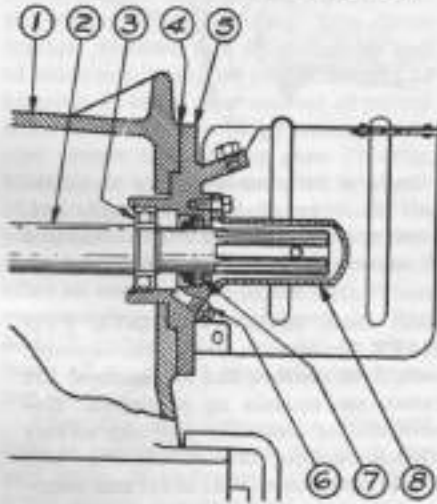
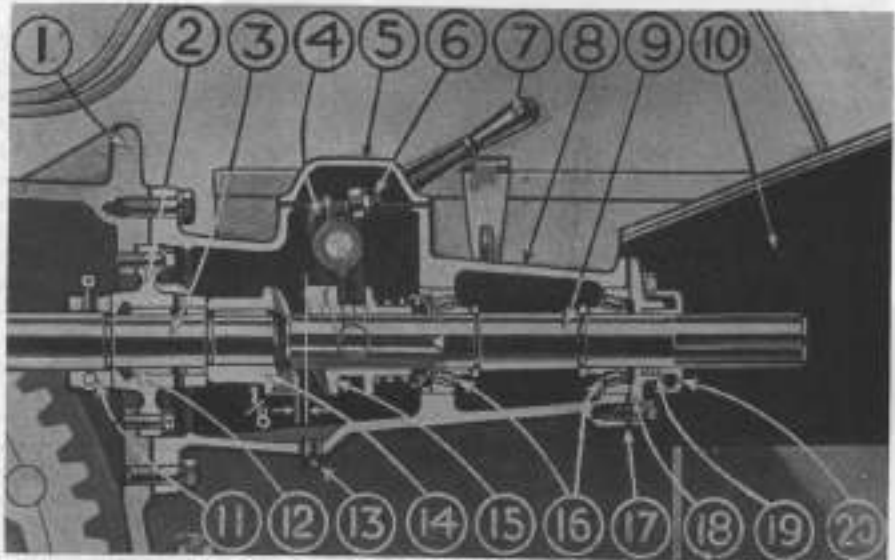

Fig. MH432—PTO shaft installation on models 55, 55D, 55K, 55LP and some 201, 202, 203 and 203G.
Fig. MH433—Power take-off unit (with clutch) as used on models 201, 202, 203 and 203G.
The forward end of pto external shaft (2—Fig. MH432) or pto intermediate drive shaft (3—Fig. MH433) is driven by shaft (19—Fig. MH350) which is mounted in the belt pulley and power take-off drive housing (1). Overhaul procedure for shaft (19) contained in the pto drive housing assembly is covered in paragraph 302.
The PTO shaft on some 201, 202, 203 and 203G models is equipped with an over-running clutch as shown in Fig. MH433.
The procedure for overhauling the unit shown in Fig. MH432 is evident. On models shown in Fig. MH433, the rear end of intermediate drive shaft (3) rides in a bracket mounted bushing which may be renewed when worn. The power take-off external shaft (9) is supported by two roller bearings
(16) which are adjusted by varying the number of shims (17) under bearing cap (18). The power take-off clutch (14) and (15) is provided with an adjustable stop screw (6), which may be adjusted as follows: Remove cover (5) from power take-off housing (8). Push hand lever (7) forward until lower end of lever enters hole provided for locking lever in disengaged position. At this position there should be approximately $\frac{1}{8}$ -inch clearance between the ends of the two clutch jaws (14) and (15) as shown. Adjust set screw (6) to obtain the proper jaw clearance. Reinstall cover (5).